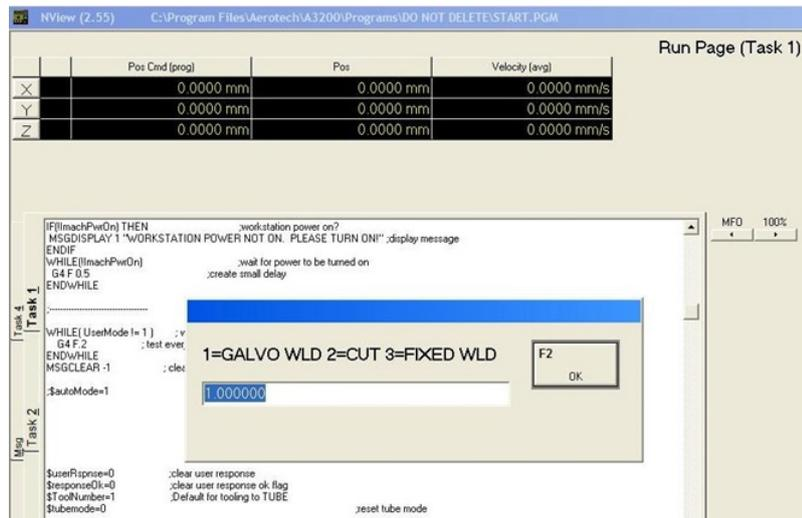

Figure 11: NView startup page and first prompt.
- (Figure 11) The NView software will automatically open to the **RUN** page and prompts will be displayed asking for user input. Follow the prompts to initialize the workstation: